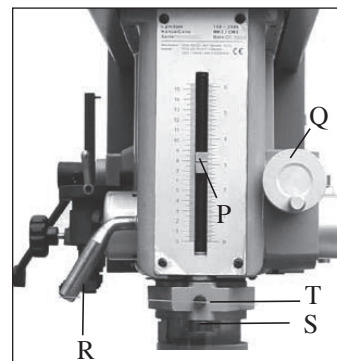

Fig. 8
2. Unlock the depth scale by turning the lock knob (T-fig. 8)
3. Set the depth stop (P-fig.8) by rotating the depth stop knob (S–fig. 8) to the desired depth.
4. Lock the depth scale by turning the lock knob (T-fig.8)